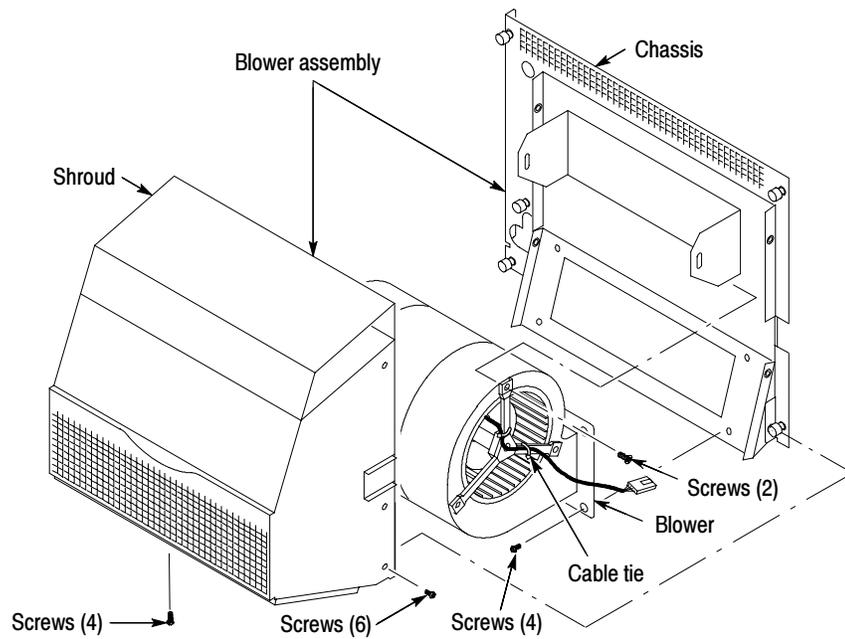

Figure 11: Removing the blower
2. Loosen the four 8-32 hex screws (see Figure 11 on page 18) under the mainframe so that you can easily remove the blower assembly.
5. To remove the blower, remove the ten screws with (the Allen wrench) holding the shroud part of the blower assembly to the chassis part of the assembly. Set the shroud aside. There are three screws on each side and four on the bottom. See Figure 11.